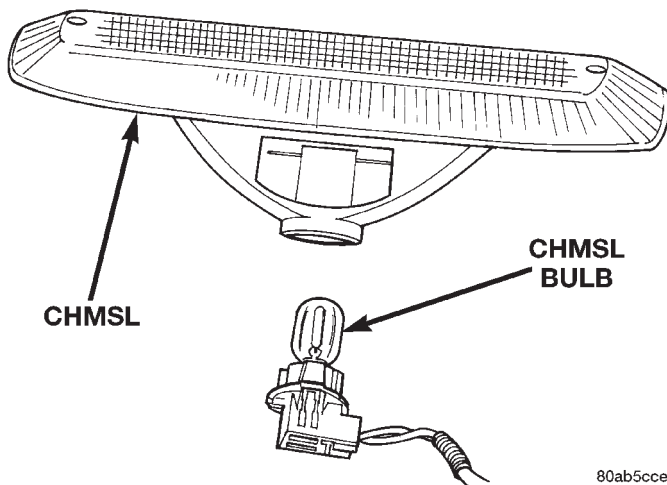

Fig. 1 Center High Mounted Stop Lamp
- (1) Remove the (2) screws retaining the center high mounted stop lamp to the rear liftgate.
- (2) Pull the lamp from the rear liftgate, rotate the bulb socket 1/4 turn and pull from lamp housing (Fig. 1).